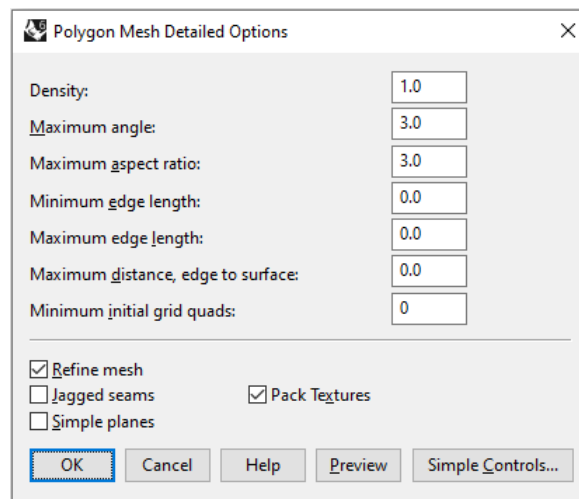

Figure 19: *Rhino* meshing dialog to create fine initial mesh.
5. Select all objects (**Ctrl+A**) and type the **\_Mesh** command to create the initial mesh of all objects. Use detailed controls with the following settings to construct a fine initial mesh (Figure 19).
18. Mesh the polysurface using the **\_Mesh** command with the same settings as in Figure 19. Note that the default mesh settings and *Simple Controls* can be used in this case, as there will be no issues with gaps or non-conformal faces (there is no need to have a highly detailed initial mesh).